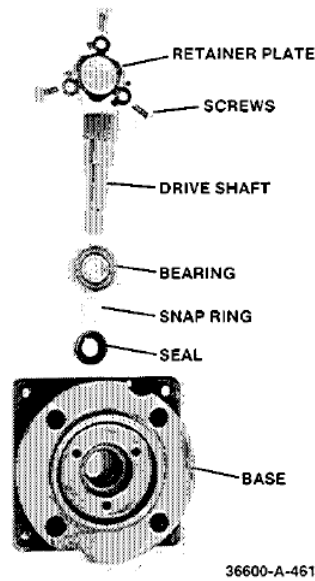

Figure 5-34. Drive Shaft and Base
12. Replace bearing on driveshaft with a new bearing unless none is available and the old bearing is not damaged too badly. See Figure 5-34.